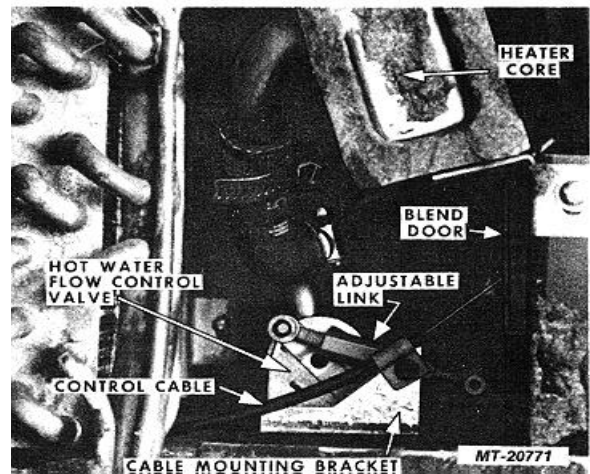

Fig. 53 Hot Water Flow Control Valve Connection Details
6. Remove control cable mounting screw from mounting bracket (Fig. 53). Disconnect control cable from blend air door.